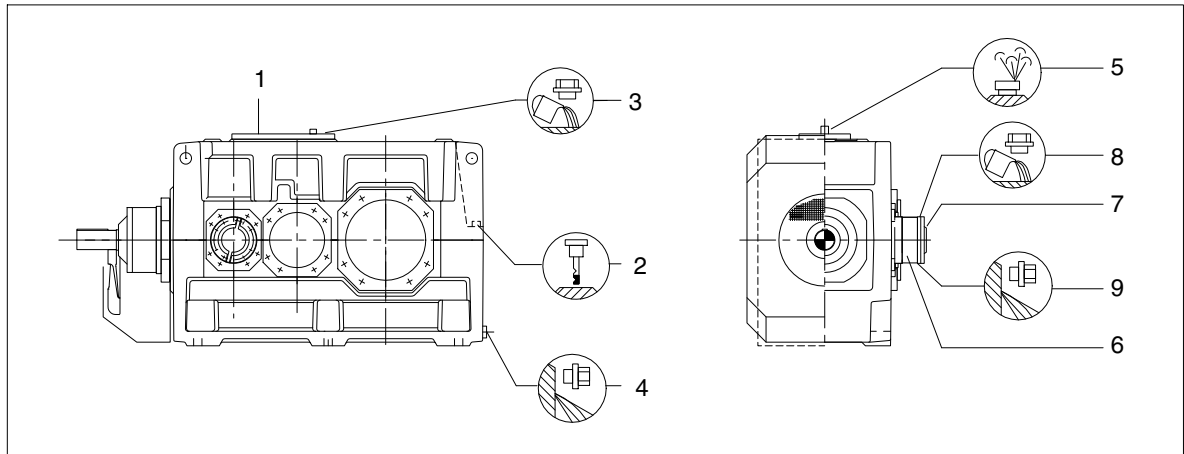
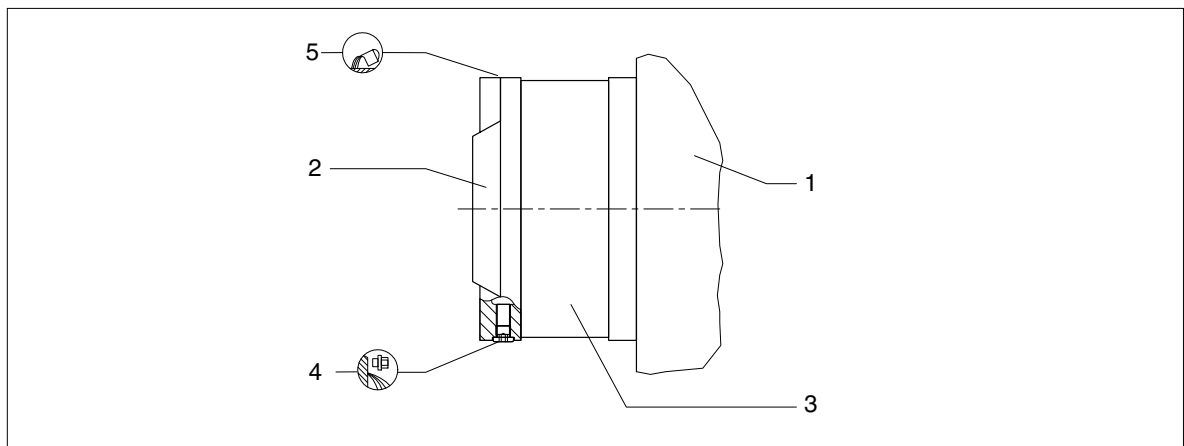

Fig. 54: Oil-filling and oil-drain points on gear units of type B3..
Fig. 55: Gear unit with backstop
- Screw in the fastening screws of the cover and tighten them to the specified tightening torque (see item 6.20).
- In case of gear units with add-on backstop remove the screw plugs (5) on the backstop (3) and top up with the oil quantity indicated on the rating plate or additional plate by way of a filling filter with maximum 25 µm filter mesh size (see figure 54 and figure 55).
Before filling the main gear unit with oil, **start by** supplying lubricating point **8** at the backstop (see figure 54 and figure 55) with the oil quantity and oil type specified on the rating plate or additional plate. Prior to startup, the backstop should be checked for proper function according to item 7.2.3.